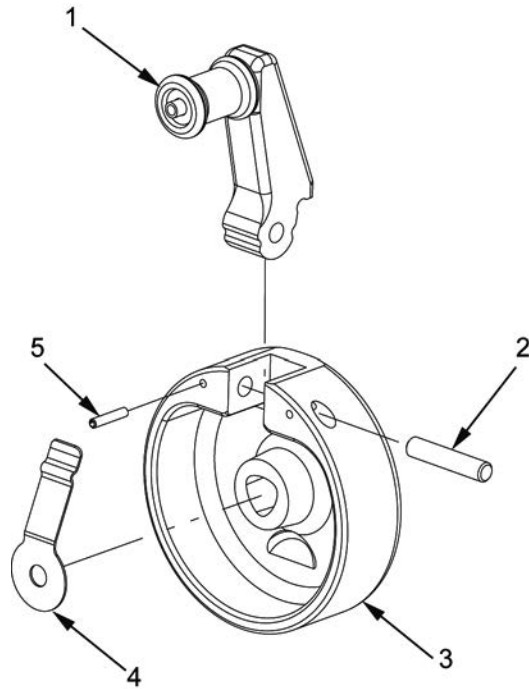

Figure 1. Disassembly/Assembly of Hand Crank.
1. Align hole in handle crank arm (Figure 1, Item 1) with holes in handle body (Figure 1, Item 3) and install headless straight pin (Figure 1, Item 2).
2. Install two new spring pins (Figure 1, Item 5) to secure headless straight pin (Figure 1, Item 2). Install pins until flush or below flush with top surface.
3. Press square end of flat spring (Figure 1, Item 4) under handle arm assembly (Figure 1, Item 1) and align hole in spring with hole in center of handle body (Figure 1, Item 3).